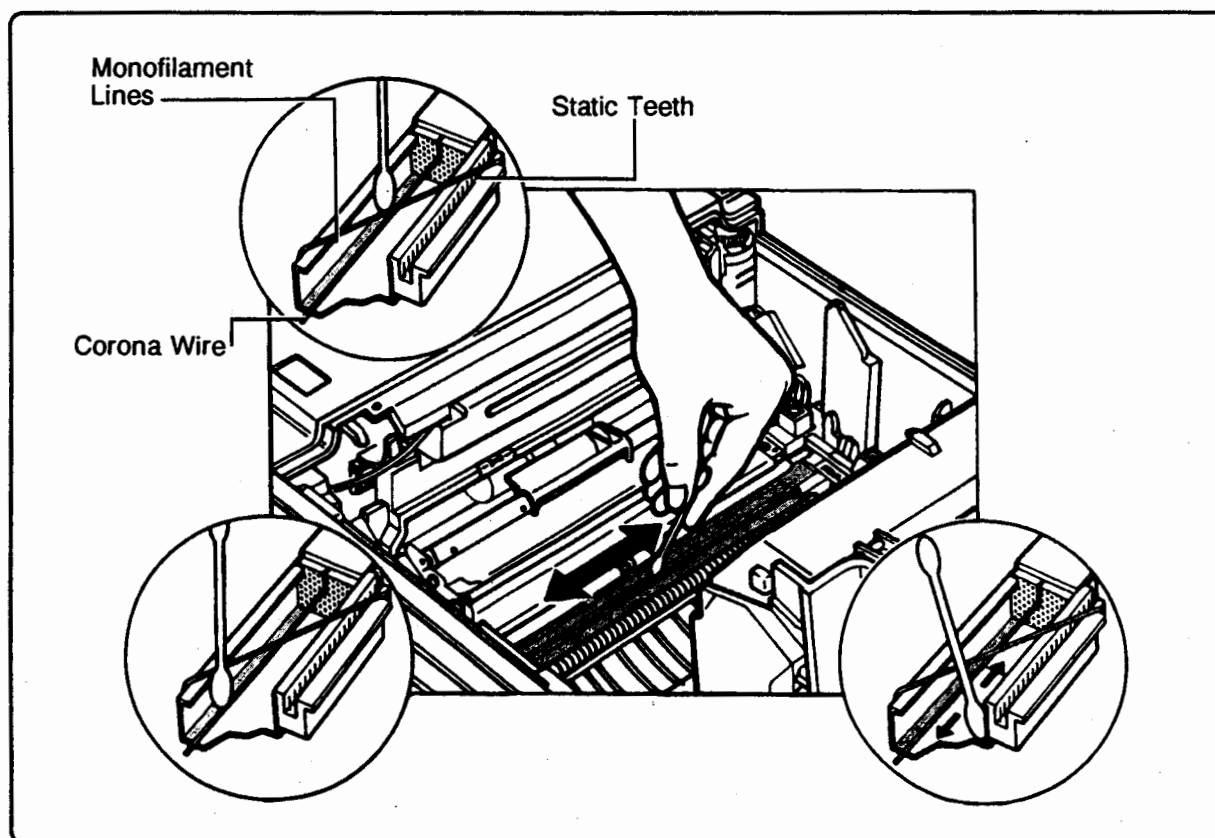

Figure 4-3. Cleaning the Transfer Corona Wire
4. With a clean swab and isopropyl alcohol (or water), gently wipe the Transfer Corona wire (see Figure 4-3) with the cotton swab until no residue remains.
5. With the brush-end of the green cleaning brush, remove any debris accumulations around the sharp row of static teeth on the output side of the Transfer Corona (see Figure 4-3).